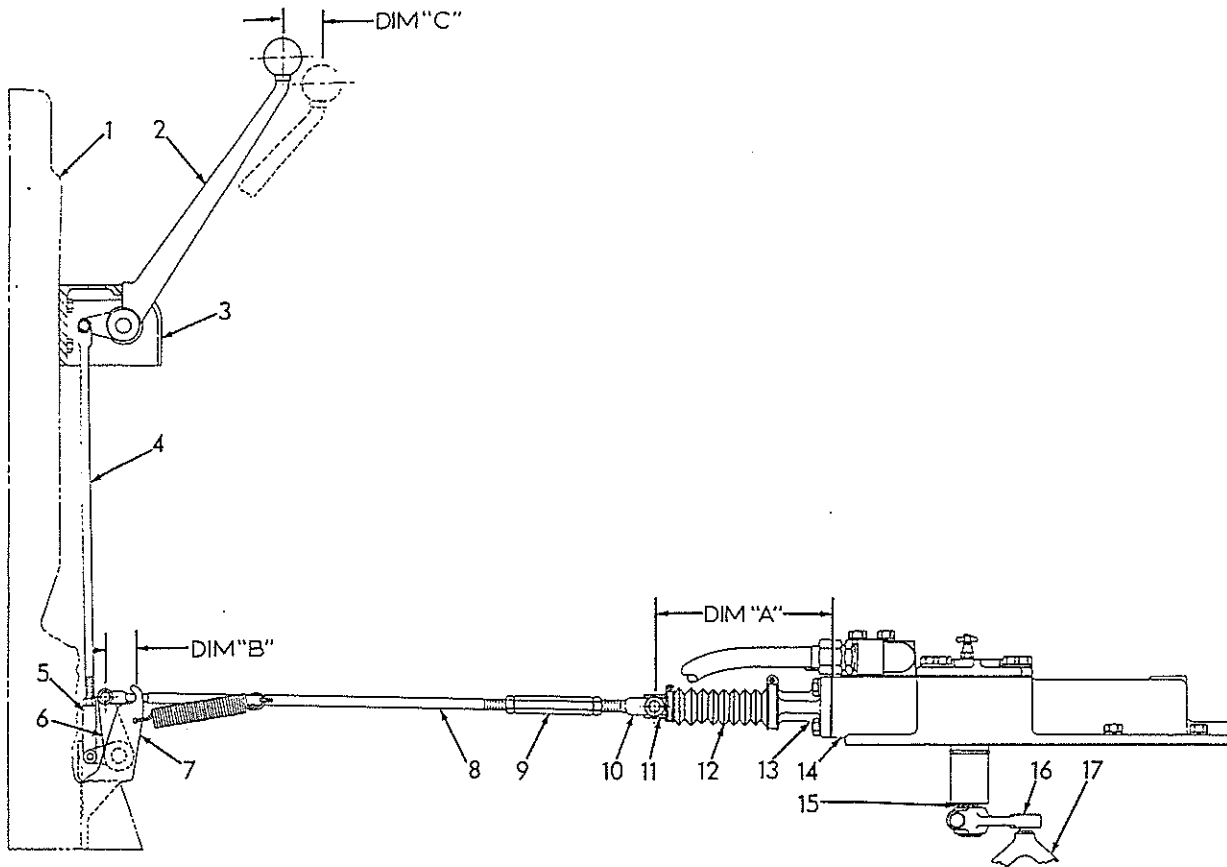

Fig. 22 -- HD11 (S/N 6069 - 10000) Steering Control Linkage
Refer to Fig. 22 and push spool valve (11) solidly against piston in control valve (14); be certain spool and piston are pushed to rear as far as possible, to take all "slack" out of actuating lever (16) and throwout yoke (17).
Measure distance from front machined surface of control valve (14) to center of hole in front end of spool valve (11); this measurement must be  $8-15/16"$  + or -  $7/16"$  (refer to Fig. 22, DIM. "A").
Refer to Fig. 22; hold spool against piston and connect control rod (8) to spool (11); adjust length of control rod by turning ad-
Subsequent adjustments for free travel (DIM. "C") should be made when free travel diminishes to 1", subsequent free travel adjustments are made by turning adjusting nut, Fig. 22 (9) to shorten control rod (8).